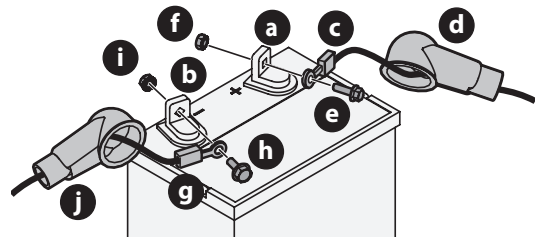

Fig. 21
NOTE: The positive battery terminal is marked POS. (+) (a). The negative battery terminal is marked NEG. (-) (b) (Fig. 21).
3. Slide the black boot (j) from the negative battery terminal (b) and remove the bolt (h) and hex nut (i) securing the black cable (g) to the negative battery terminal (b). Move the cable away from the negative battery terminal (Fig. 21).
4. Slide the red boot (d) from the positive battery terminal and remove the bolt (e) and hex nut (f) securing the red cable (c) to the positive battery terminal (a) (Fig. 21).